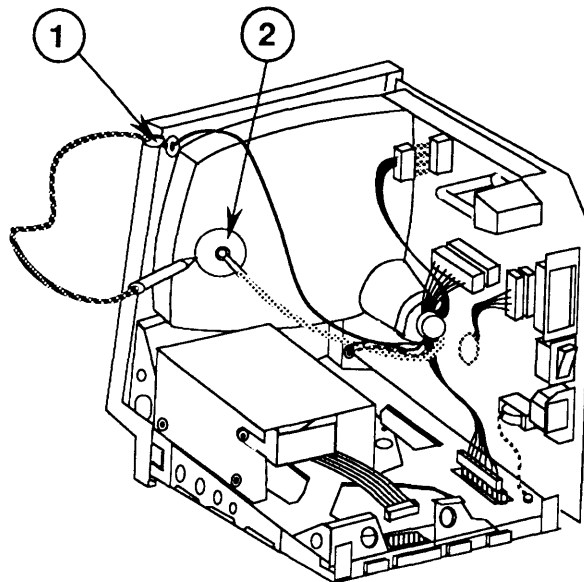

FIGURE 3
2. Attach the alligator clip on the CRT discharge tool to the metal part of the **ground lug** (Figure 3, #1).
3. Put one hand in your pocket or behind your back and grasp the insulated handle of the CRT discharge tool. Insert the probe of the tool under the anode cap (Figure 3, #2) until it touches the anode ring.